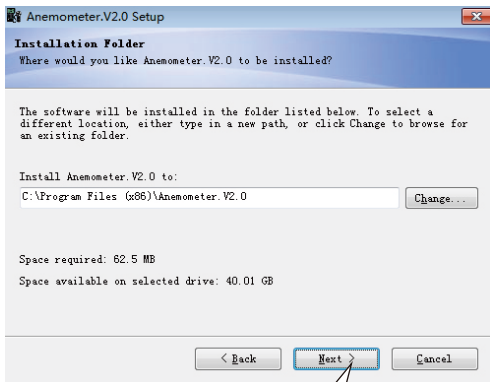

Figure 3
- Select the installation path, the default location is the C drive, click Change to change the installation location of the software, users can choose their favorite installation path. After selecting the path, click OK. After returning to the installation interface, click Next (as shown in Figure 3).